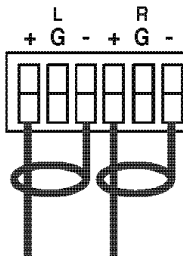

Figure 9: Connecting an Unbalanced Source to the Balanced Input
- An unbalanced source to the balanced input on the **VP-88ETH** (see Figure 9)
Figure 9 illustrates how to connect an unbalanced source to the balanced input on the **VP-88ETH**: